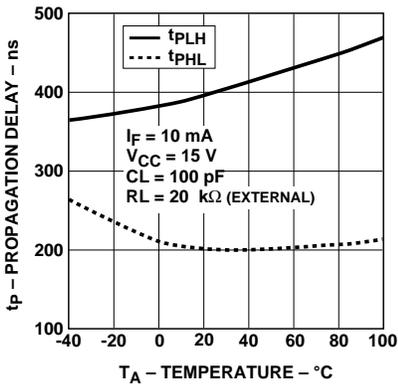

Figure 8. Propagation Delay with External 20 kΩ RL vs. Temperature.
- Due to tolerance of the internal resistor, and since propagation delay is dependent on the load resistor value, performance can be improved by using an external $20\text{ k}\Omega$ 1% load resistor. For more information on how propagation delay varies with load resistance, see Figure 8.